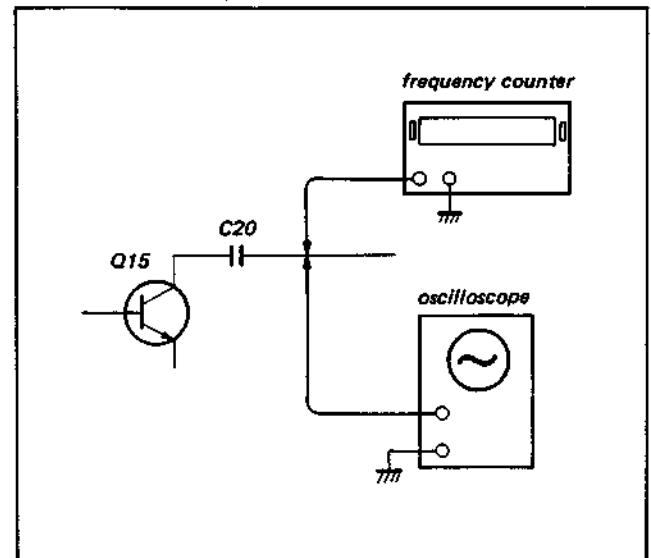
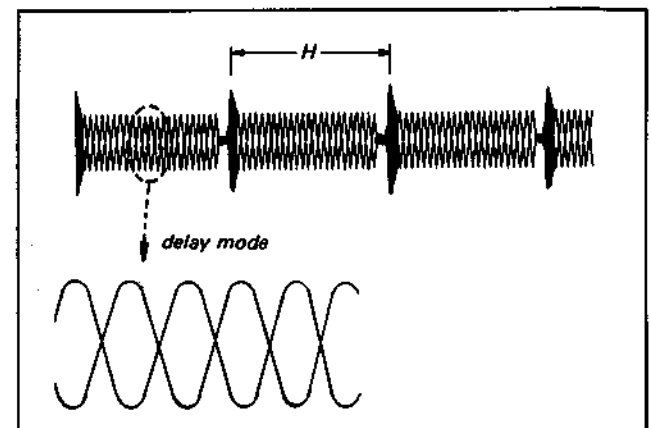

Fig. 4-4-7. Injection oscillator (2)
Fig. 4-4-9. Injection oscillator (4)
- (4) Short-circuit between collector and emitter of Q14 with the jumper.
- (5) Connect the frequency counter as shown in Fig. 4-4-7.
- (7) Connect the oscilloscope as shown in Fig. 4-4-7.
- (8) Remove the jumper in step (4).
- (9) Make sure that the waveform is as shown in Fig. 4-4-9.